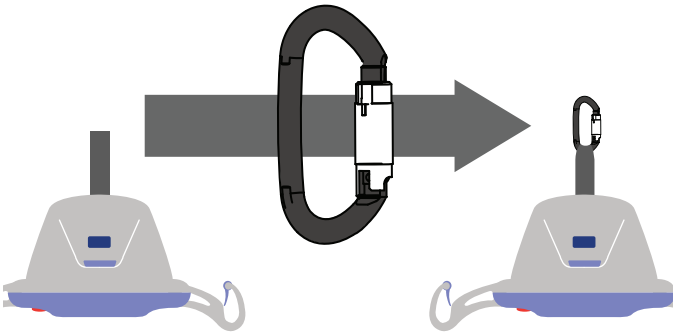

Fig. 2
2. Hook the new triple action carabiner to the lift's strap. See Fig. 2.